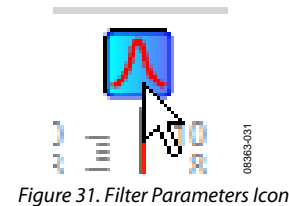

Figure 31. Filter Parameters Icon
17. Click the blue equalizer icon to alter filter parameters (see Figure 31).